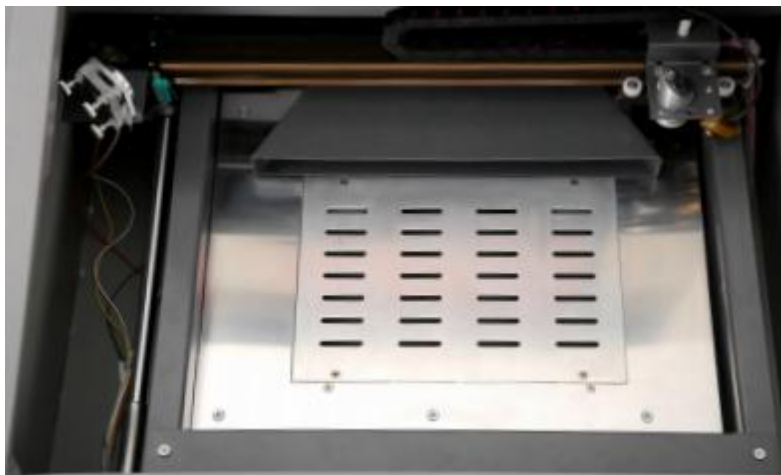

Figure 5-6 Third Mirror in Position 2
- a. when the second and third mirrors are well aligned in Position 1, slowly and gently move the third mirror along the Y. axis guide rail until it is in Position 2 (Fig. 5-6) far away from the second mirror.